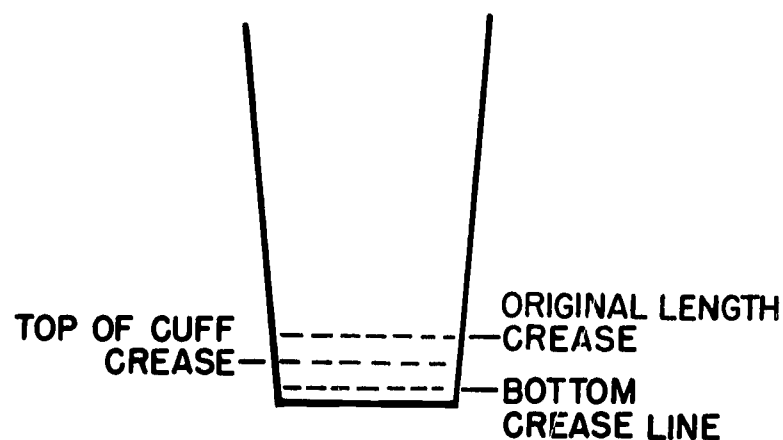

Figure 66.
1. Rip out stitches holding the hem in place. It will then look like Figure 66.